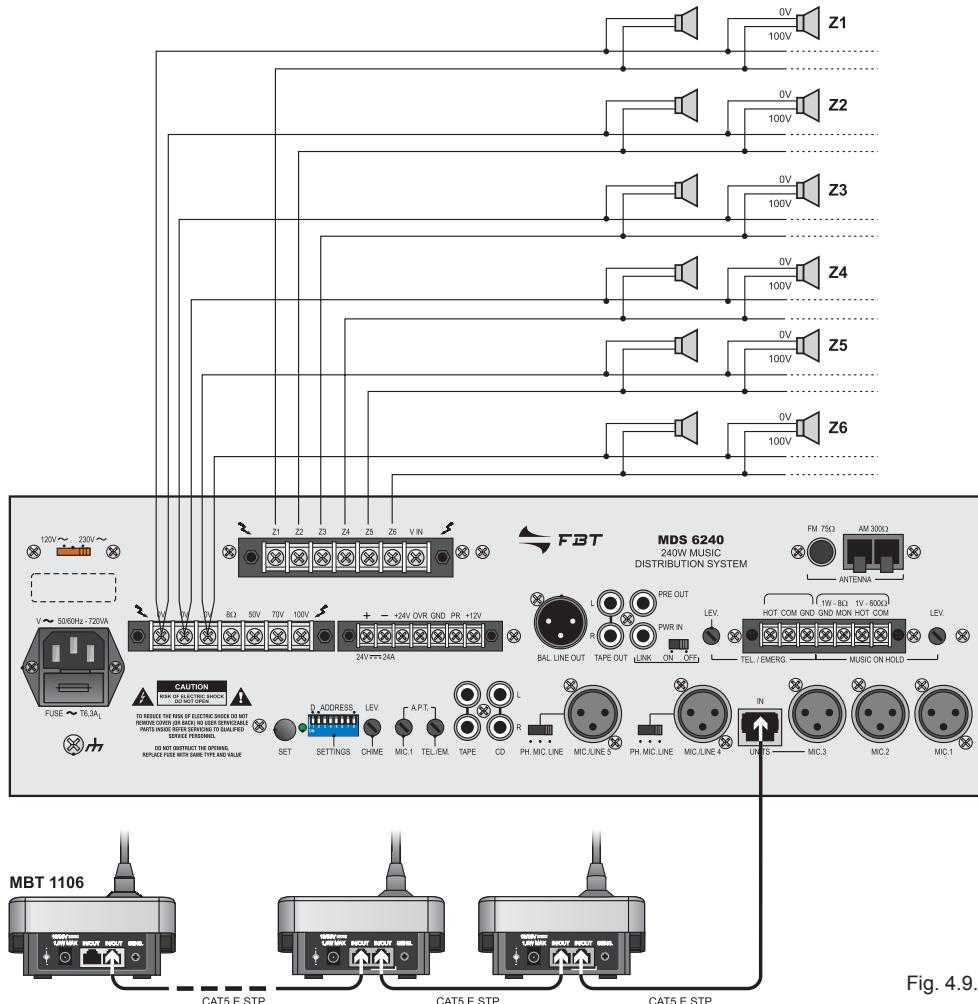

Fig. 4.9.1
The selection will be made automatically via connection to the **IN UNITS** socket (22). An example of a connection for a six-zone calling system is illustrated in Figure 4.9.1. The output level is controlled from the front panel (2).